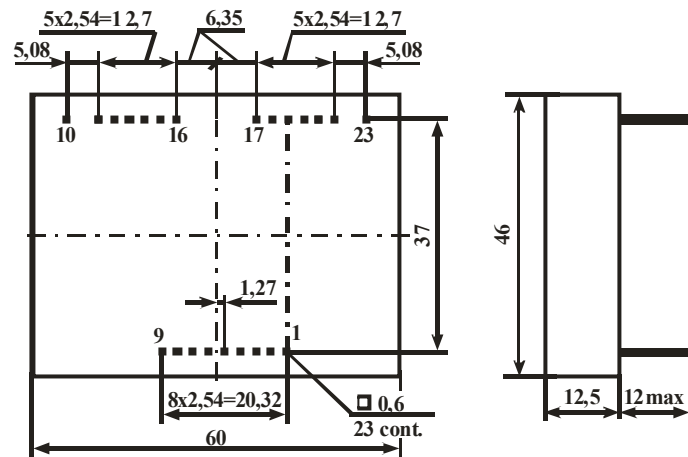
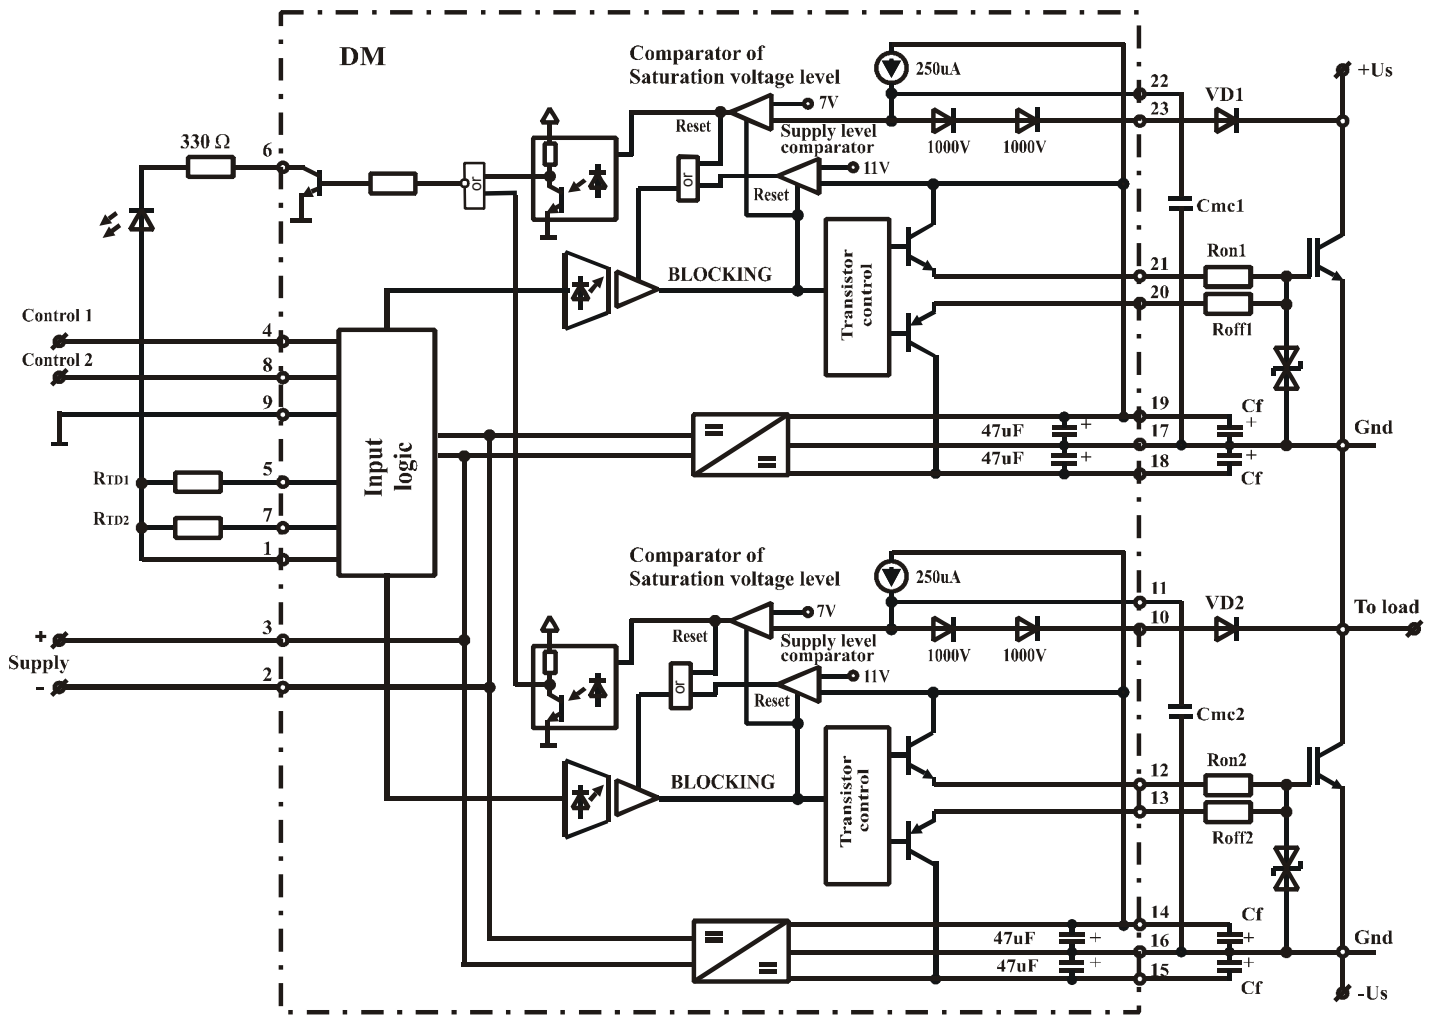

Figure 1 – Driver overall drawing
Figure 2– Functional circuit and driver turn-on circuit
3.1 Overall drawing is shown at Figure 1, functional circuit and driver turn-on circuit are represented at Figure 2.
MC1, MC2 – collector connection outputs (drain) of controlled transistor. Outputs are intended for voltage fall control (saturation protection) on the transistor. Meanwhile maximum protection operation threshold value is equal to 5.8 V (if the external elements are not installed). Protection operation threshold is regulated by external elements installing (Zener diodes and diodes); voltage fall on Zener diodes and diodes at current 250 μA is deducted from the maximum voltage (5.8 V). For instance, if Zener diode with rated Zener voltage 3.3 V and two diodes with voltage fall 0.7 V at current 250 μA are installed sequentially (ref. to recommended connection circuit at Figure 2), then protection operation threshold will be equal to $5.8 - 3.3 - 2 \times 0.7 = 1.1$ V.
OUToff1, OUToff2, OUTon1, OUTon2 – outputs meant for connection of controlled transistors gates. The recommended connection circuit is shown at Figure 2. Voltage limiter should be set with rated breakdown voltage not less than 16 V and not more than maximum-permissible gate voltage. It is recommended the limiter with rated breakdown voltage 18 V. It is allowed to install Zener diodes with corresponding rated Zener breakdown. If the controlled transistor is installed at a remote distance from the driver, then the limiter should be installed direct to transistor.